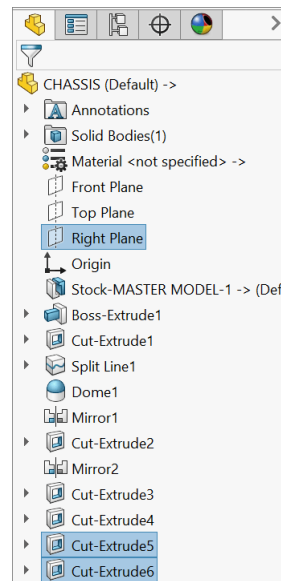

Fig. 67
Step 1. **Ctrl click Right Plane**, **Cut-Extrude5** and **Cut-Extrude6** features to select plane and features, Fig. 67.